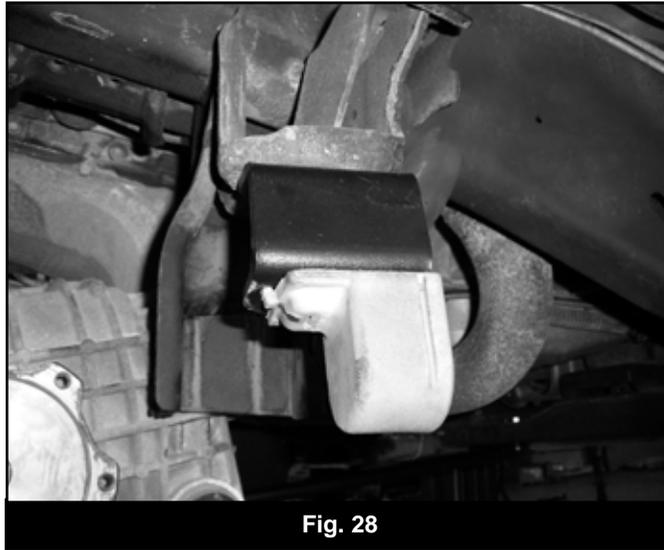

Fig. 28
49. With the holes drilled, attach the new brackets to the frame with 3/8" x 1-1/4" bolts, nuts and 3/8" washers (BP 572). The two outer bolts should be all the way to the outer edge of the slots in the brackets (bracket push inward toward frame as far as possible). Torque bolts to 30 ft-lbs. Install the factory bump stop on the new brackets with the original mounting nut. Install the bump stop so it is offset toward the rear of the vehicle (Fig 28). Tighten bump stop hardware securely.